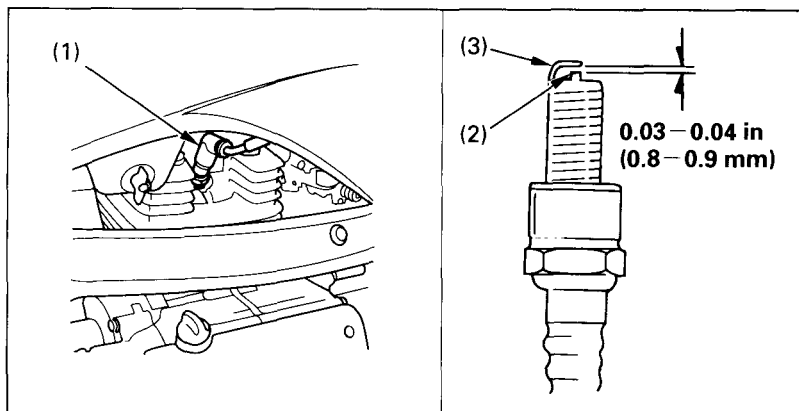

Fig. 4-14 (1) Spark plug cap
4. Visually inspect the spark plug electrodes for wear. The center electrode (Fig. 4-14) should have a flat tip and sharp edges, and the side electrode (3) should not be eroded. If the electrodes and insulator tip appear unusually fouled or burned, we suggest that you contact your authorized Honda dealer.